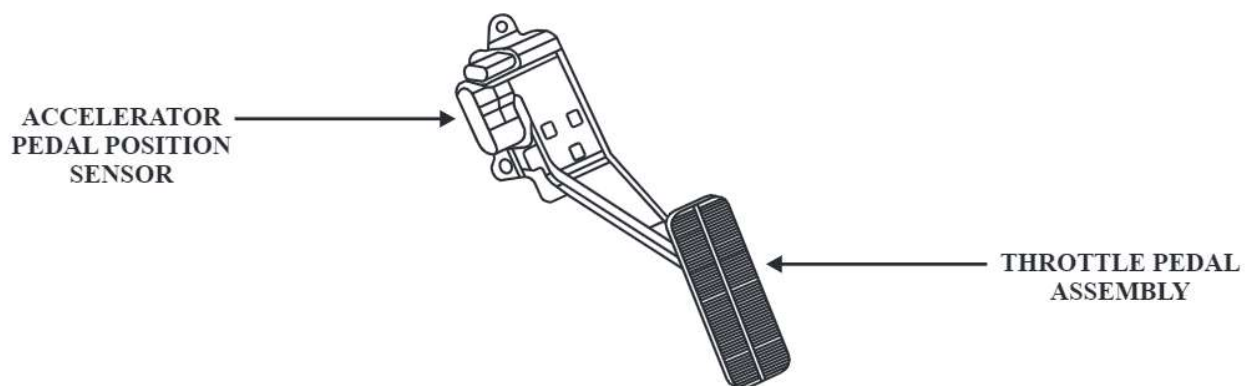

Figure 71
- The *Accelerator Pedal Position Sensor (APPS)* (Refer to Figure 71) contains 3 individual throttle position sensors up to and including the 2002 model year. 2003 and later models have an APP Sensor with one sensor disabled and two functional, this sensor determines pedal angle and sends its signals to the TAC Module and is an integral part of the throttle pedal.
- The Accelerator Pedal Position Sensor is faulty, (Refer to Figure 71).
- The APPS is faulty, (Refer to Figure 71).